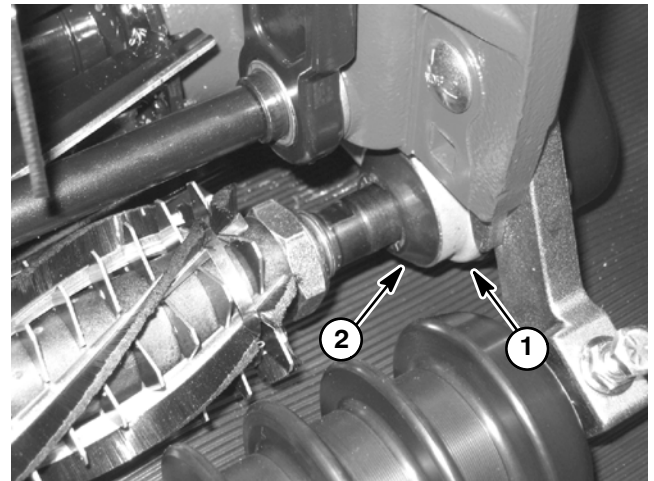

Figure 10
C. Remove the flange nut (item 6) that secures driven pulley (item 5) to groomer shaft. Remove driven pulley from shaft. Locate and retrieve square key (item 4) that locates driven pulley on shaft.
D. Slide washer (item 3) and pulley spacer (item 2) from groomer shaft.
E. Remove shoulder bolt that secures quick-up ball joint rod to groomer plate (Fig. 10).
F. Disconnect extension spring (item 14) from stud on groomer plate.
G. Remove two (2) socket head screws (item 7) that secure groomer components to cutting unit side plate.
B. Remove two (2) socket head screws (item 7) that secure groomer components to cutting unit side plate.
3. Make sure that excluder seals (item 23) and o-ring (item 24) are positioned on groomer shaft. The excluder seal lips should be toward the end of the groomer shaft. Apply a film of grease onto seal lip.
6. Check that excluder seals just touch groomer plate assembly (Fig. 10). Reposition excluder seals on groomer shaft if necessary.